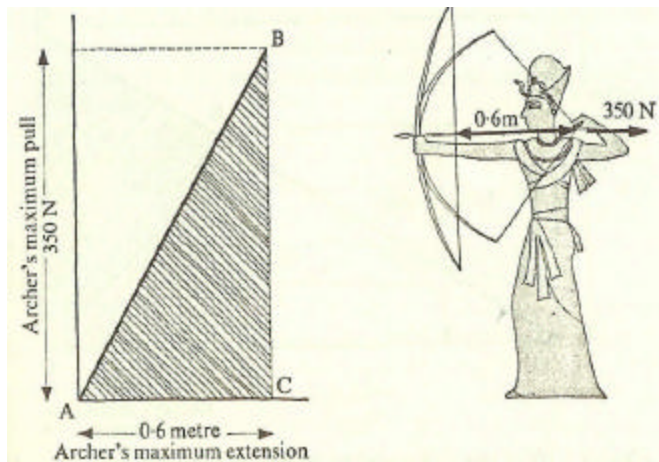

Figure 2. Energy stored in bow = $t \times 0,6 \times 350 = 105$ Joules.*
If we suppose that the bow is initially virtually unstressed and that the string is almost slack to begin with, then the archer starts to draw his arrow with a pull which is initially nearly zero, and he only works up to his greatest pull when the string reaches its maximum extension. This is expressed diagrammatically in Figure 2. In such a case, the energy put into the bow is the area of the triangle ABC, which cannot be more than half of the available energy, ie. 105 Joules.
* Figures 2 and 4 are, of course, schematic. Generally the force-draw diagram will not be a straight line; but the same principle applies.